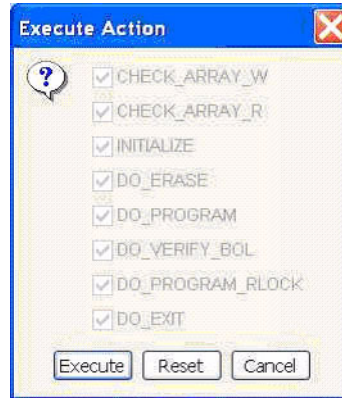

Figure 7-45. Execute Action Dialog Box—Program
4. The Execute Action dialog box appears, as shown in Figure 7-45.
All the steps of the programming sequence are listed. Grayed out options are required for programming and cannot be changed. All of these steps, as shown in Figure 7-45, are grayed out because they are required for programming and cannot be changed.